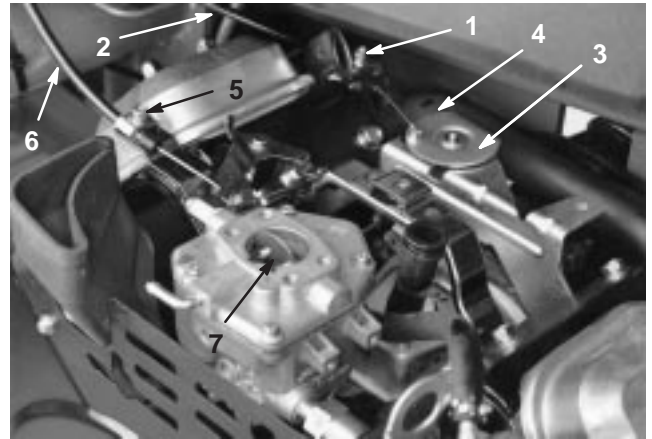

Figure 45
1. Loosen the cable clamp screw securing the cable to the engine (Fig. 45).
3. Pull firmly on the throttle cable until the back of the swivel contacts the stop (Fig. 45).
3. Pull firmly on the choke cable until the choke butterfly is completely closed, then tighten the cable clamp screw (Fig. 45).